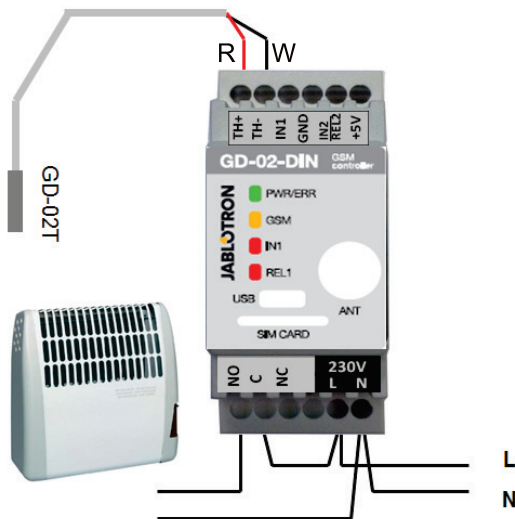

Figure 5: Measuring the temperature and electric heater control.
- A controlled device has to be connected via the REL1 (see Figure 5) power output contacts in this mode.
- Using the GD-Link software on the “Thermostat” tab enable the function “Activate thermostat (REL1) mode”. Set the “Comfort (TC) and Economical (TE) temperatures”. For the Thermostat mode „Hysteresis” can be set for regulation within a 0.1–9°C limit (tolerance because of thermal fluctuations).